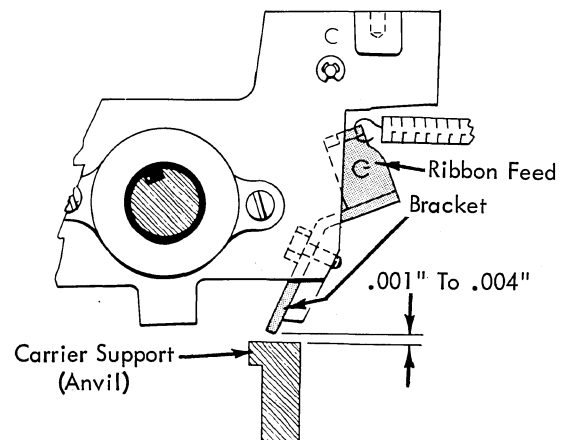

FIGURE 97.1 Carrier Support (Long Carriage Machines)
- 6. Carrier Support (long carriage machines) - Adjust both ends of the support vertically to maintain .001" to .004" clearance with the bottom of the ribbon feed bracket along the entire length of the writing line (Fig. 97.1).